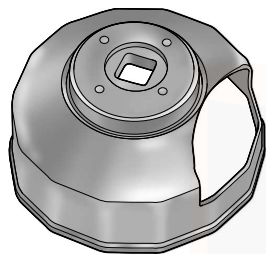

Figure 49. Oil Filter Wrench (Part No. HD-44067)
3. See Figure 49. Remove the oil filter using the OIL FILTER WRENCH (Part No. HD-44067) . Clean the oil filter mount flange of any old gasket material (surface should be smooth and free of any debris or old gasket material).